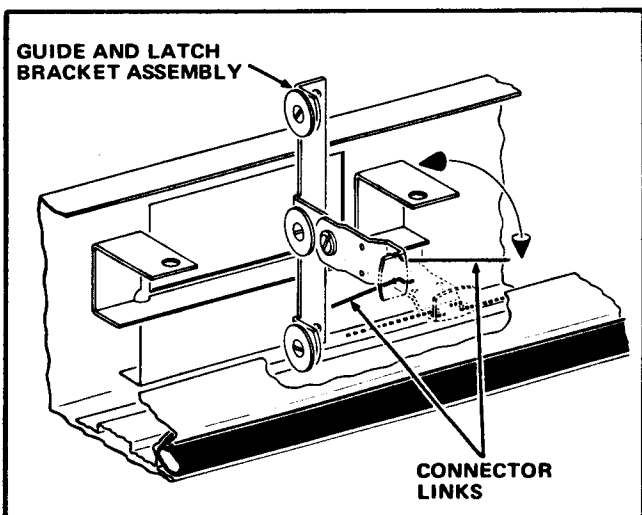

FIGURE 12
5. Rotate the Guide and Latch Bracket Assembly 90° and carefully remove the Assembly from the Connector Links. See Figure 12.